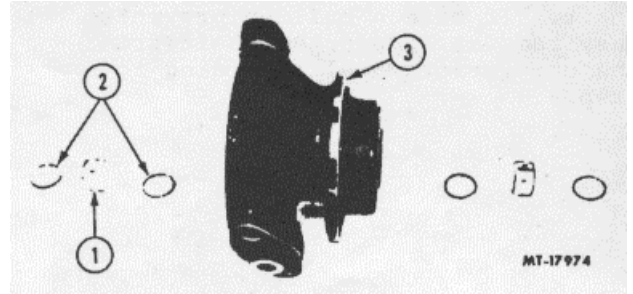

Fig. 19
- b. With a sharp pick, remove the spiral bearing retainers from the bearing bore on the compressor side of the housing (Fig. 19). Remove the bearing. Turn the center housing over on the bench and remove the retainers and bearing from the turbine end (Fig. 19).